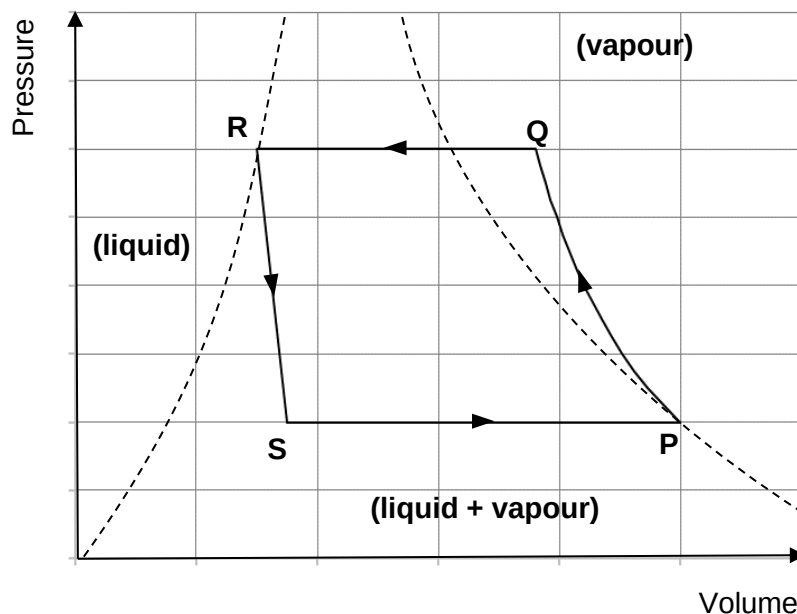

Fig. 8.1
Fig. 8.1 shows the variation of pressure against volume of the refrigerant as it cycles through four states P, Q, R and S. The four stages of the cyclic process are evaporation, condensation, compression and throttling (pressure releasing).
The dotted lines on Fig. 8.1 separate the pressure-volume regions into the respective phase of matter in which the refrigerant exists at that pressure-volume state. For example, in the region labelled **(liquid + vapour)**, the refrigerant exists as a liquid-vapour mixture.
(a) Using the information provided in Fig. 8.1, match each stage in the cycle with its description in the chart below. P→Q has been matched.
- (ii) By referring to Fig. 8.1, identify the state (P, Q, R or S) at which the refrigerant is a saturated vapour, and another at which it is a saturated liquid.